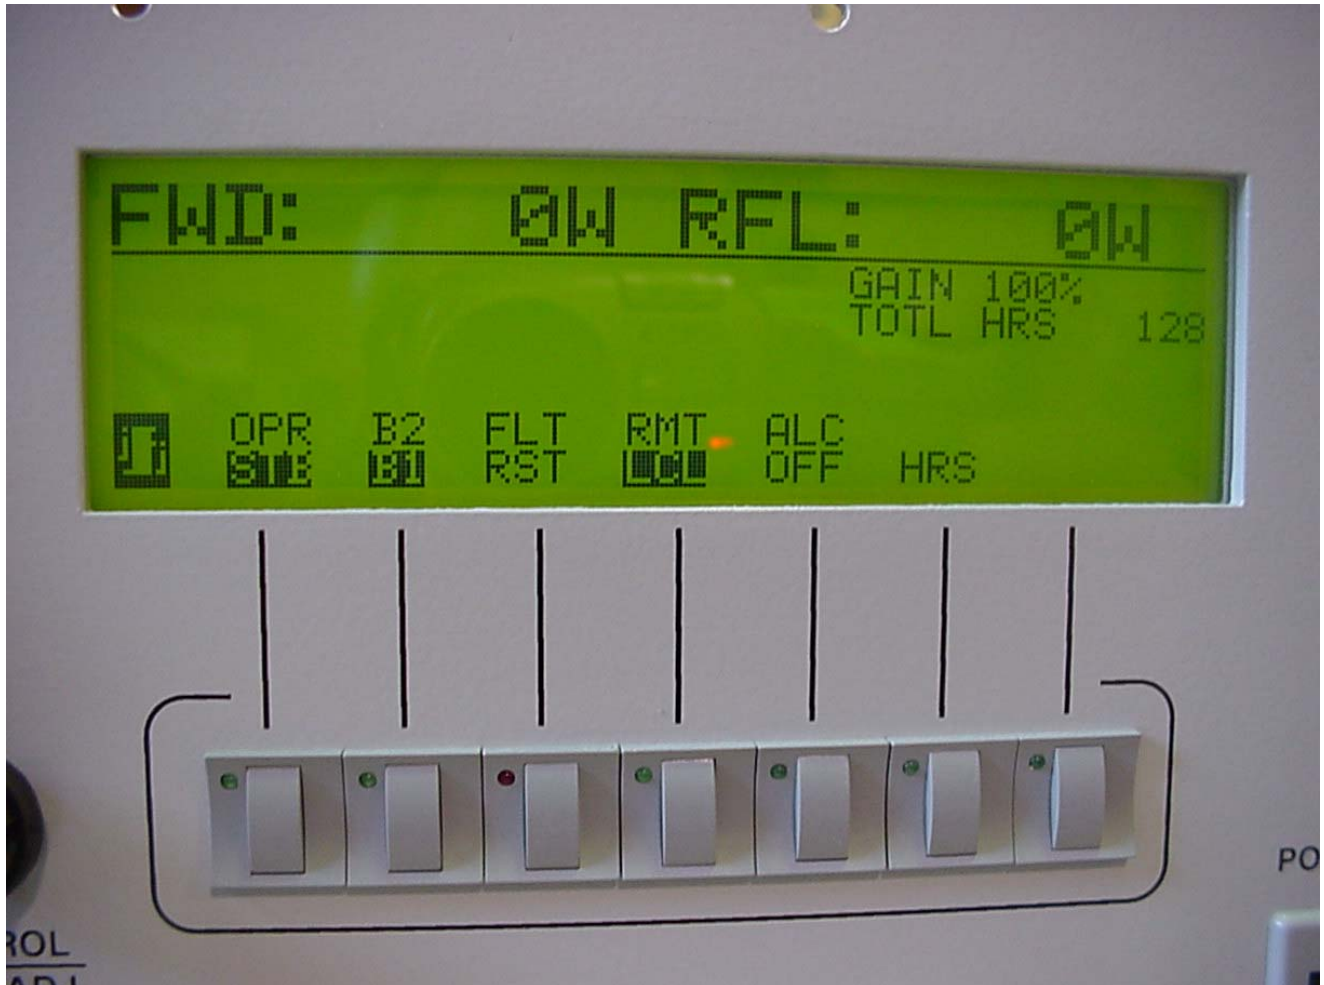

FIGURE 5.0 – MAIN MENU AND STATUS DISPLAY (Typical)
Control Level Adjust Knob (Option)	<p>The optional Level Adjust control is a ten-turn pot, which allows a minimum of a 30 dB range of gain. Turning the control Counter Clockwise (CW) produces a minimum gain.</p> <p>Important Note: If the amplifier is not equipped with this option, the display will still indicate a GAIN percentage (refer to Figure 5.0). This percentage indication is still controlled by Level Adjust Control but the both the Level Adjust Control and the corresponding GAIN percentage indication has no effect on the amplifier gain.</p>
Important Note: Figures 5.0 and 6.0 indicates the display for a typical amplifier and the ALC option is indicated however if the amplifier is not equipped with this option, the ALC option will not be displayed.